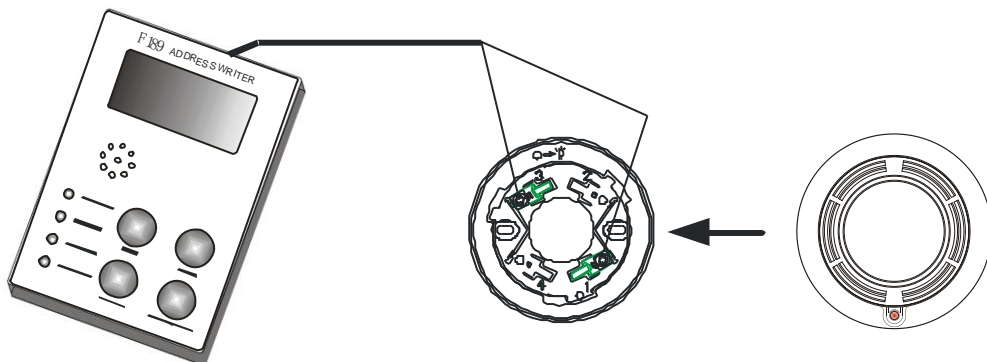

Fig.4
3. Coding address: As shown in Fig.4, detector is accessed via the detector mounting base on the coder, non-polarity connection is adopted for the terminals L1 and L2, set the coder with the coding function, select the correct address number and press the RUN key to complete the address code setup. (Note: See the User's Manual of the coder for the detailed operation.)